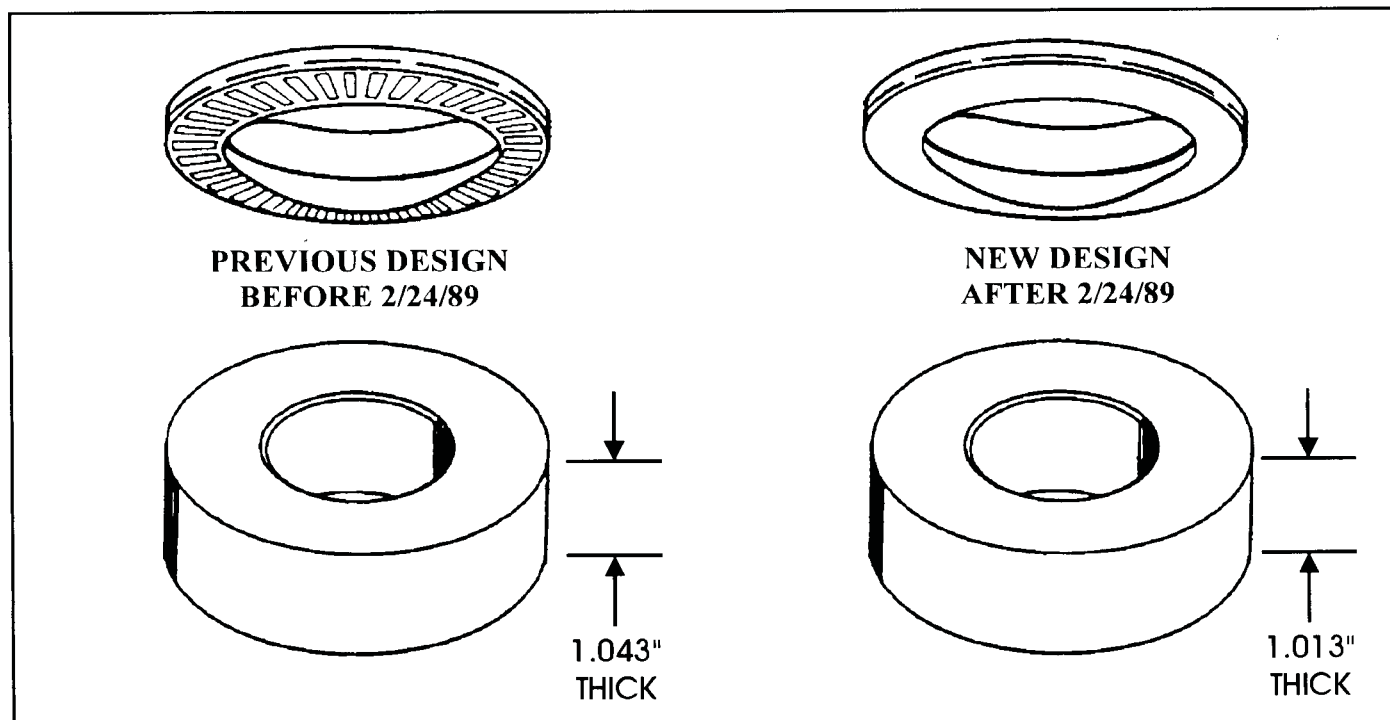

Figure 30
- (1) **LOW ROLLER CLUTCH INNER RACE** - As of 2/24/89, the Low Roller Clutch Inner Race height has been reduced by .030" to accommodate a revised hub to race thrust bearing. The previous inner race height was 1.043" and the new design is 1.013", as shown in Figure 30.
- (2) **HUB TO RACE THRUST BEARING** - The previous thrust bearing was a **2 Piece** (open face) design, and the new design is a **3 Piece** (closed) design bearing. The thickness of the previous 2 piece thrust bearing is .110" thick, and the new design 3 piece bearing is .140" thick, so that it is compatable with the new thinner inner race (See Figure 30).